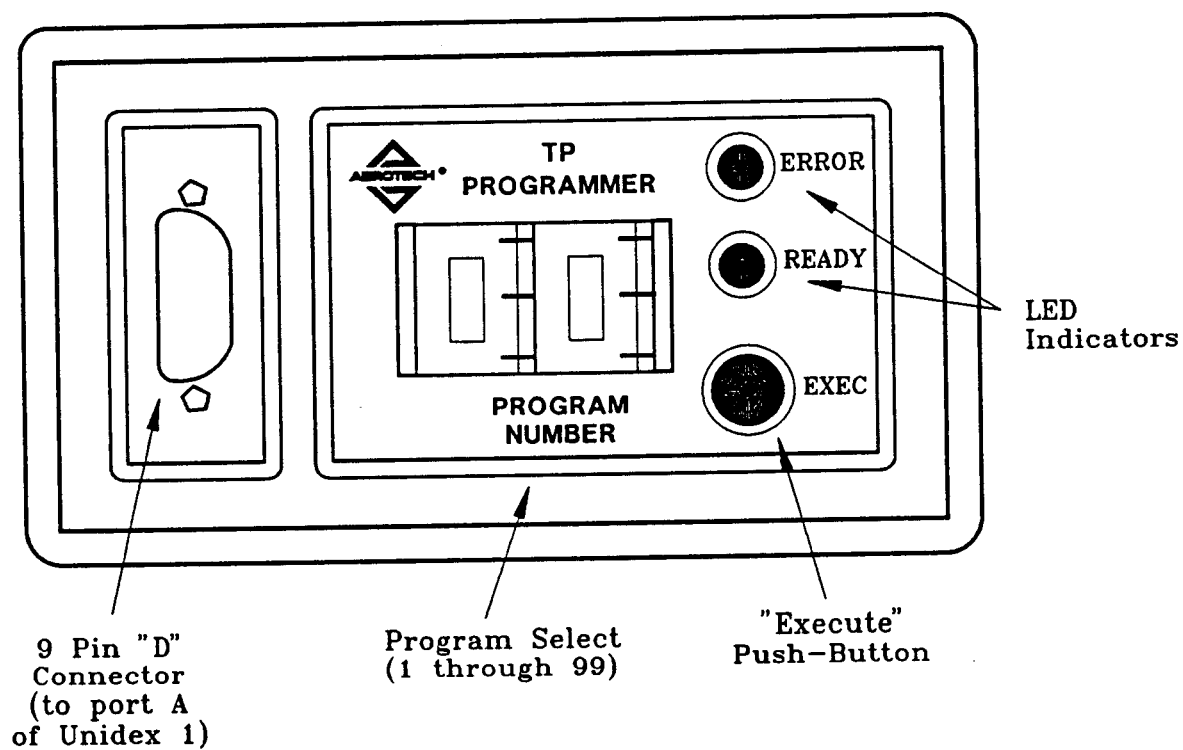

Figure 7-3: Thumbwheel Programmer (TP) Option
The Thumbwheel Programmer (TP) (Figure 7-3) is supplied with a molded interconnect cable that is designed to plug directly into the Communications Interface Connector, Port A of the Unidex 1 (see Section 2-10). No additional interconnect wiring is required by the user. The TP derives its power directly from the Unidex 1.
The Thumbwheel Indexer (TI) (Figure 7-3) is supplied with a molded interconnect cable that is designed to plug directly into the Communications Interface Connector, Port A, of the Unidex 1 (see Section 2-3-1). No additional interconnect wiring is required by the user. The TP derives its power directly from the Unidex 1.